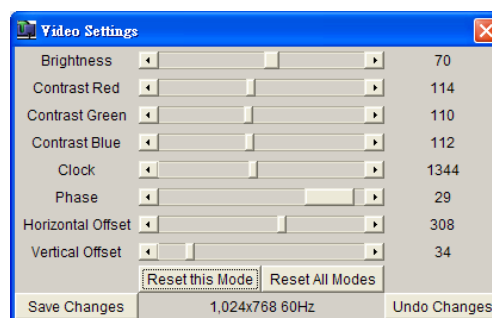

Figure 10-10 Video Settings
- Video Settings: Here you can give specified detailed settings for the video. Please refer to Figure 10-10.